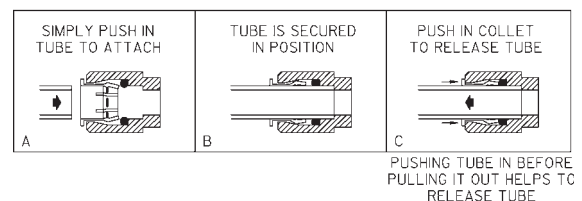

FIG. 2
3. **Actuation of Quick Connect Water Fittings:** Cooler is provided with lead-free connectors which utilize an o-ring water seal. To remove tubing from the fitting, relieve water pressure, push in on the gray collar while pulling on the tubing (See Figure 2). To insert tubing, push tube straight into the fitting until it reaches a positive stop, approximately 3/4".